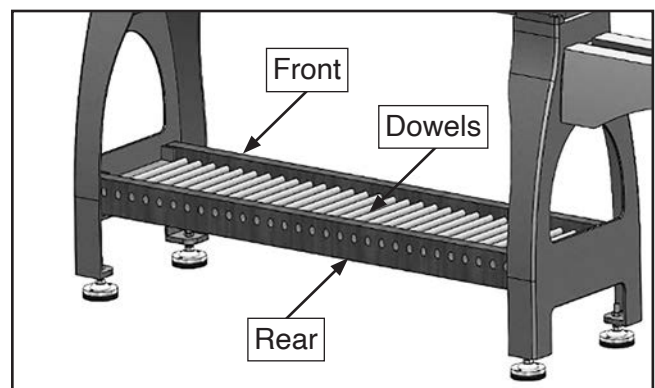

Figure 34. Boards and dowels installed.
2. In one 2x6, drill $\frac{5}{8}$ " holes all the way through board. This board will be installed on rear of lathe (see **Figure 34**). On other 2x6, drill holes only deep enough to secure dowel rods. This board will be installed in front.